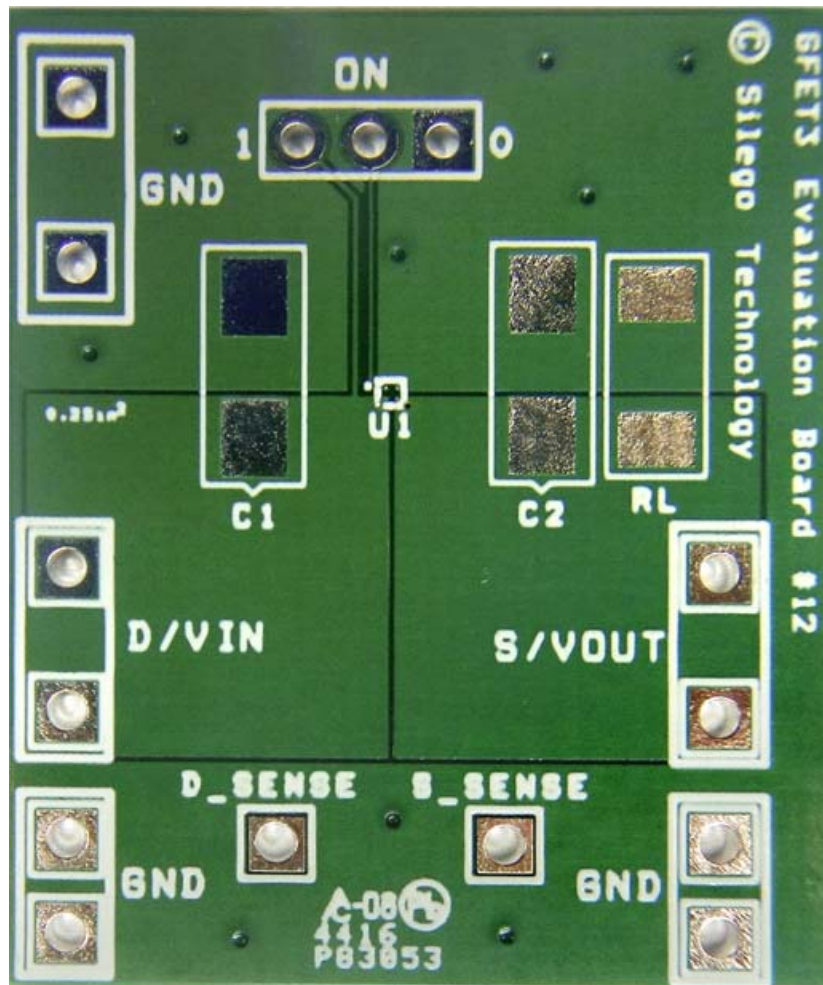

Figure 7. SLG59M1736C Evaluation Board
1. Since the VIN and VOUT pins dissipate most of the heat generated during high-load current operation, it is highly recommended to make power traces as short, direct, and wide as possible. A good practice is to make power traces with absolute minimum widths of 15 mils (0.381 mm) per Ampere. A representative layout, shown in Figure 7, illustrates proper techniques for heat to transfer as efficiently as possible out of the device;
A GFET3 Evaluation Board for SLG59M1736C is designed according to the statements above and is illustrated on Figure 7. Please note that evaluation board has D_Sense and S_Sense pads. They cannot carry high currents and dedicated only for RDS_{ON} evaluation.